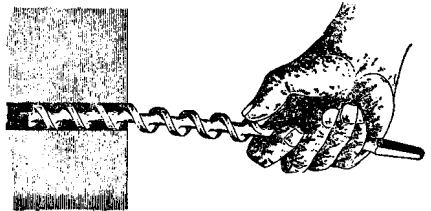

FIGURE 10.
- (5) *Straightening Bit*—To straighten a bit, bore a hole to the depth of the bend in a solid timber that has a direction opposite to the bend of the bit until the distance traveled is sufficient to remove the bend. If available, a vise may be used for holding the bit. The bit should be protected from injury by placing solid pieces of wood between the sides of the bit and vise jaws. If the bit remains slightly bent, it may be straightened by placing it on a solid, flat, wooden surface and tapping it lightly with a smooth faced wooden mallet or a hammer on the side opposite the bend. This method should also be used for sprung or slightly bent bits. See Figure 10. A badly bent bit that cannot be straightened by these methods in a reasonable time should be exchanged for one satisfactory for use. To determine whether a bit is straight, lay it on a flat surface, then roll it. If it rolls evenly it is straight.